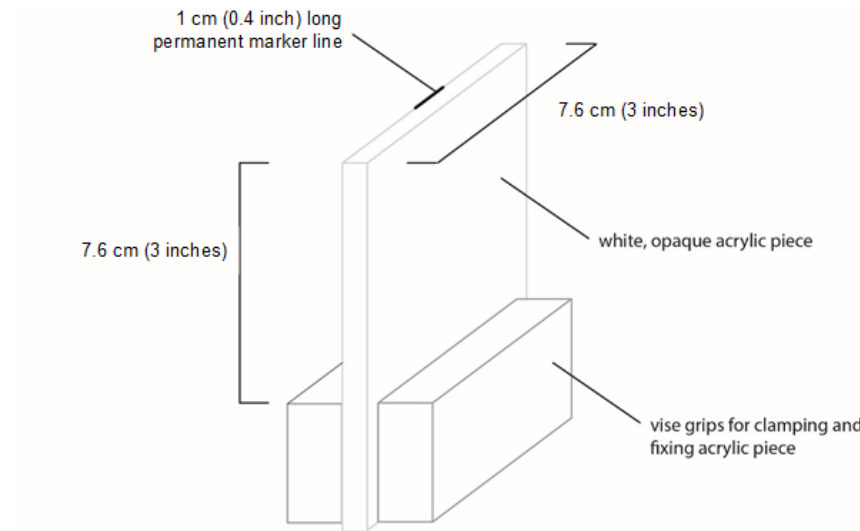

Fig. 5. File Nail setup
1. A piece of acrylic is cut (laser-cutting recommended) and clamped with an approximately 7.5 cm x 7.5 cm (or 3 in x 3 in) piece exposed (Figure 5)